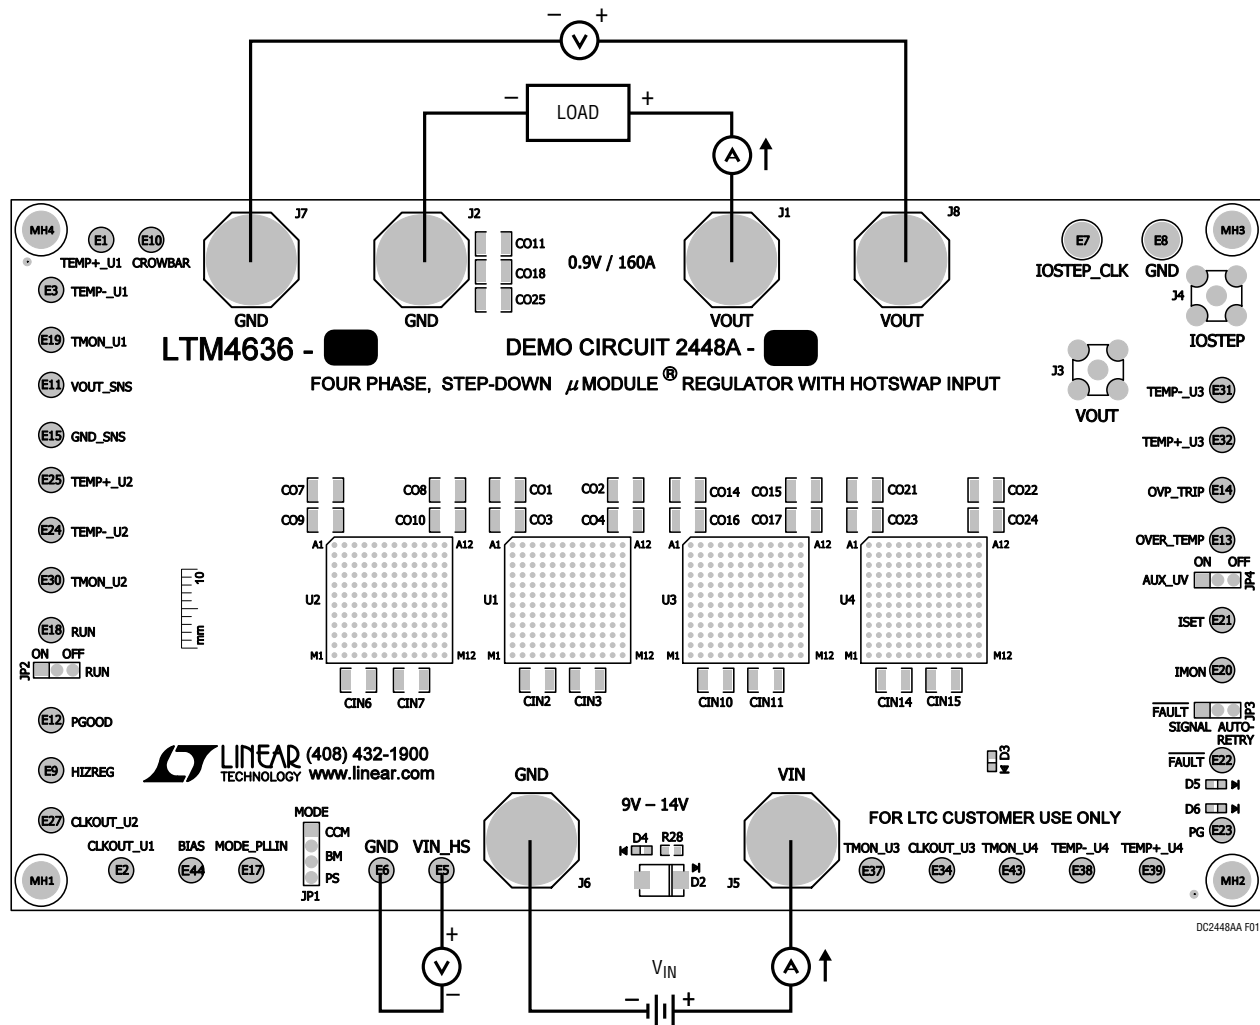

Figure 1. Measurement Setup of DC2448A-A
Demonstration circuit DC2448A-A is an easy way to evaluate the performance of PolyPhase operation of the LTM4636EY. Due to the high input/output current, the user should select the proper input supply/load/cable which can sustain the full load operation. Please refer to Figure 1 for proper measurement equipment setup and follow the procedure below:
2. With power off, connect the input power supply, load and meters as shown in Figure 1. Preset the load to 0A and VIN supply to 12V.